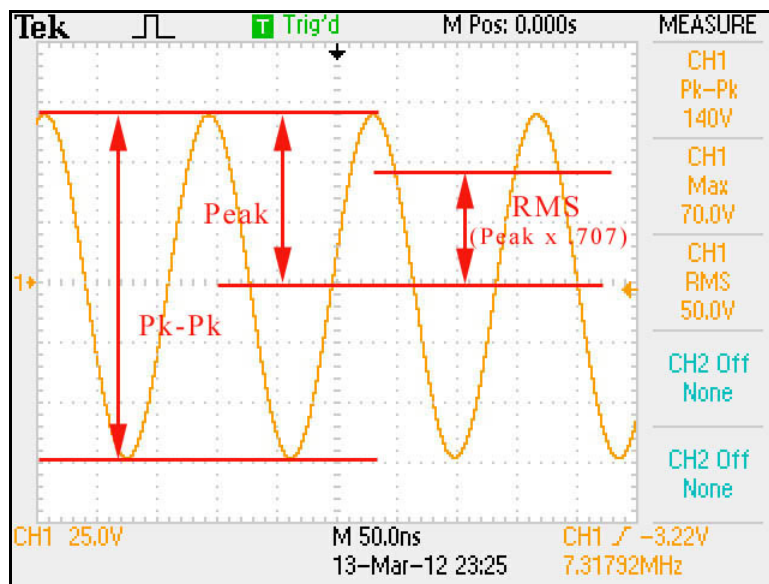

Figure 1, Oscilloscope display
See figure 1. Note, the Max (peak) voltage is 70 volts, which is half of the Pk-Pk voltage. To solve for peak power, square the peak voltage (E) and divide by 50 (the load impedance) So:
We know that oscilloscopes are great tools to measure voltages of AC waveforms. For a perfect sine wave, multiplying peak voltage times .707 will give us RMS voltage. Some of the newer scopes make this step easy and calculate the RMS voltage directly. These calculations are quite accurate even for non-sinusoidal waveforms. See Figure 1, what is the average power if the peak voltage is 70 volts?
Step one: Calculate the RMS voltage ($70 \times .707 = 49.5$ volts). You'll note that in Figure 1, the calculated RMS voltage is 50 volts not 49.5 volts. That is because the oscilloscope measurement was done on a somewhat imperfect sine wave, thus giving a slightly higher reading.